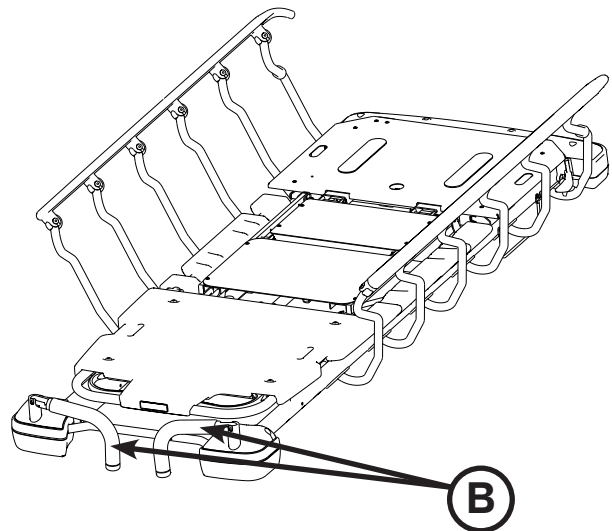

Figure 21: Push Handles Stored
To store the push handles, lift the handles (B) up and pivot them down to store in the handle rests (Figure 21).